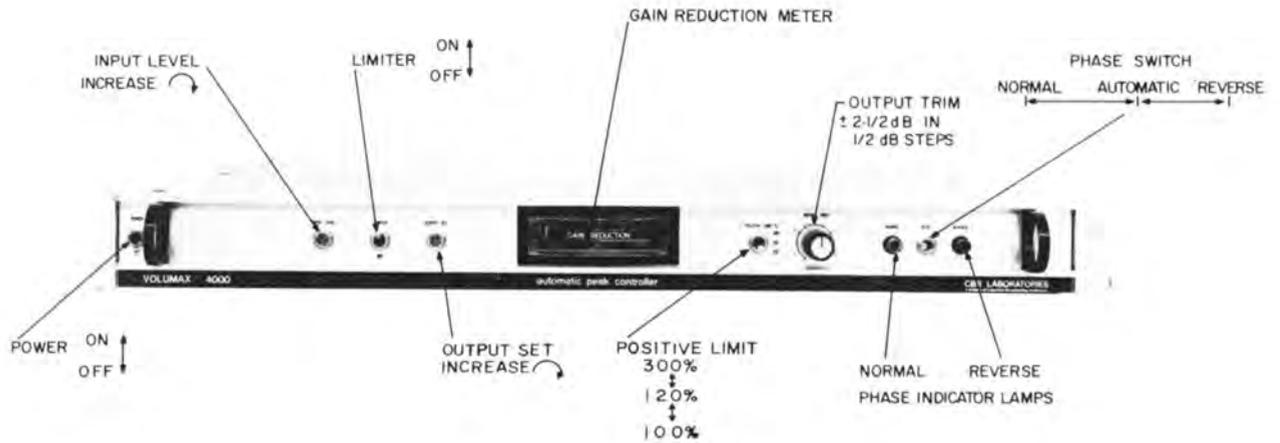

Figure 3-1. Volumax Model 4000 Front-Panel Controls
- 1) Turn the OUTPUT SET control (figure 3-1) fully counterclockwise.
- 2) Adjust the INPUT LEVEL control (figure 3-1) as necessary to cause the GAIN REDUCTION meter to operate in the green or NORMAL area with occasional peaks deflecting into the red region.
The compression action of Volumax can be disabled by placing the **LIMITER** switch (figure 3-1) in the OFF position. When this is done, however, the amplifier section of the Volumax unit must not be driven at levels significantly higher than in normal operation. Proceed as follows.